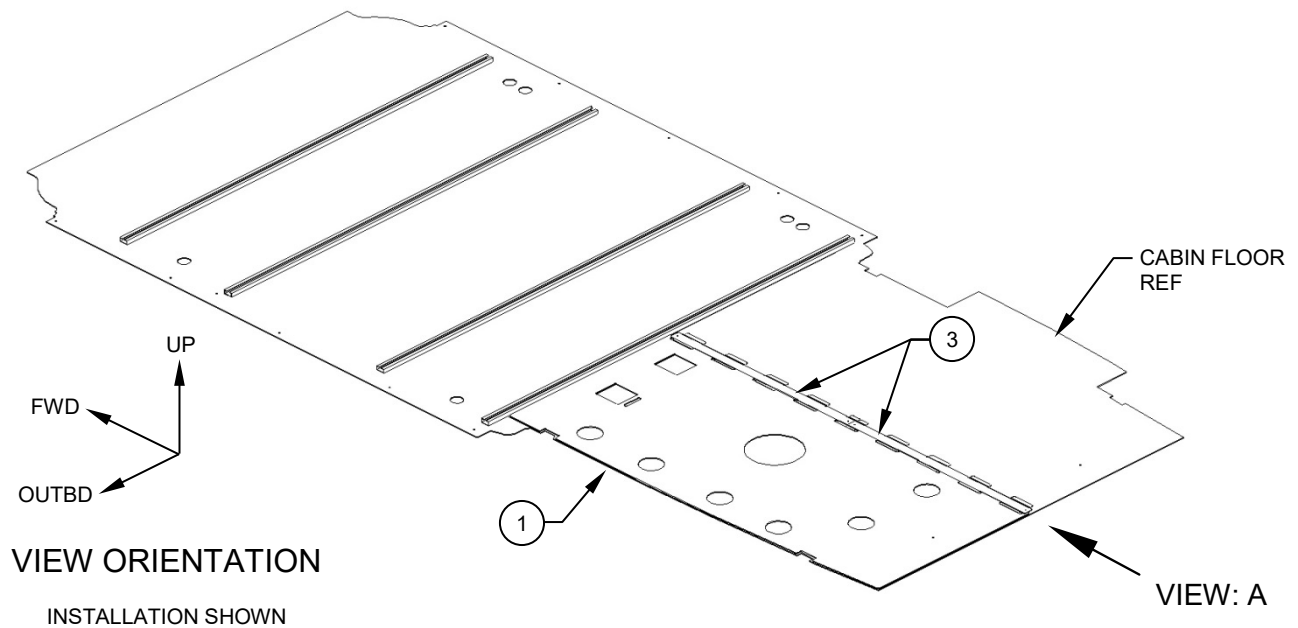

**Figure 9**
2. Remove and retain the two most OUTBD fasteners common to the access panels near the AFT end of the cargo area. Remove and retain fasteners along cargo door sill. Reference Figure 9.
6. Install the provided fasteners (Item 10) as shown. Reference Figures 9 & 12